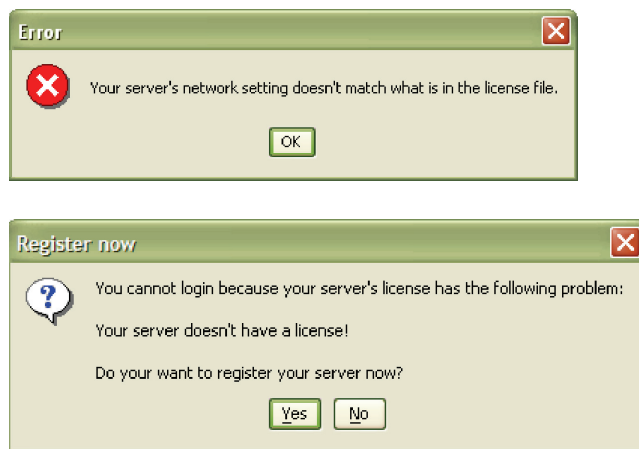

Fig. 41: Errors produced when the server needs a new license file after changing the IP address.
2. If either of the messages shown in Fig. 41 appears, the computer's settings do not match the settings specified in the current license file.